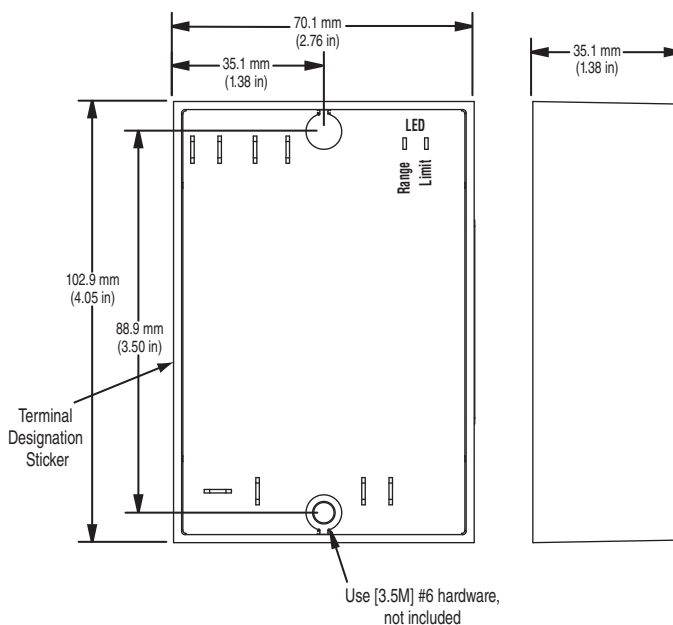

Figure 3b
1. Drill two 5 mm (0.187 in) diameter holes in the desired panel location. See Figure 3b for hole locations.